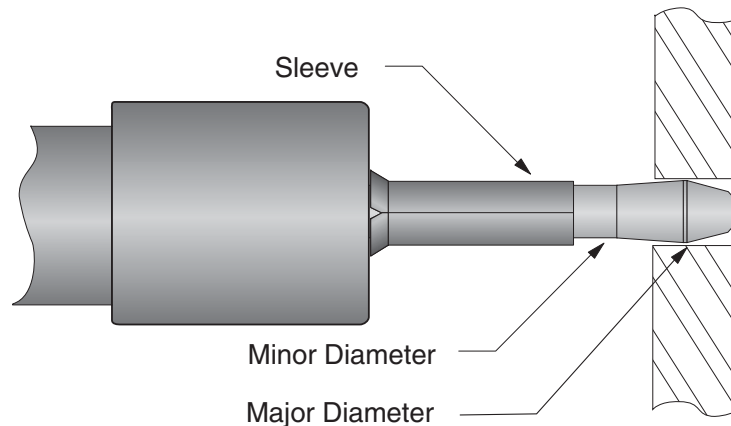

Figure 4-05 — Positioning Sleeve on Mandrel (dimensions exaggerated for clarity)
- 4.7.7 Slide the split sleeve onto the mandrel, until flush against the nose cap. Ref. Fig. 4-05.